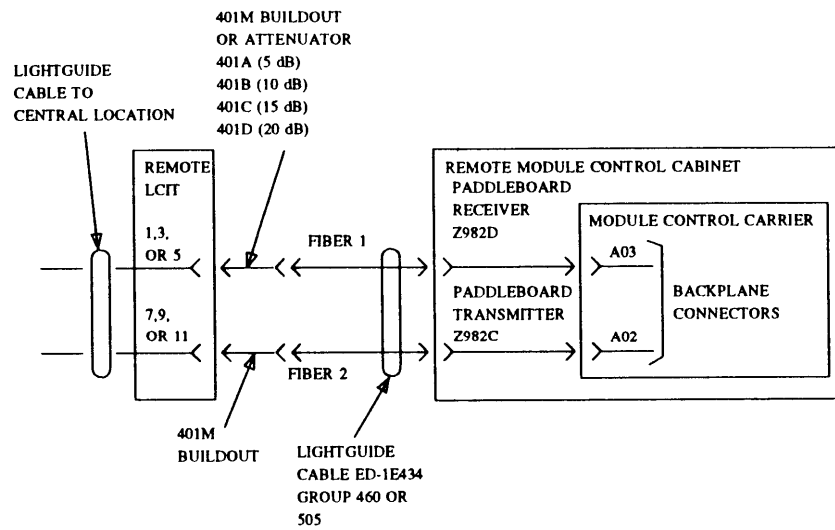

Figure 12-57. Remote TMS Fiber-Link Connections for Unduplicated Module Control (Phases 1, 2, and 3 — Traditional Module at Remote Site)
Install all the TMS fiber link(s) for the remote location from the TMS carrier(s) to the remote LCIT as shown in figures 12-57 and 12-58 for an unduplicated and duplicated system. The cable must be loosely supported to prevent damage. The fiber-optic cable has a minimum bend radius of 1.5 inches.
5. Connect the fiber-optic cables to the appropriate attenuator as shown in figures 12-57 and 12-58.